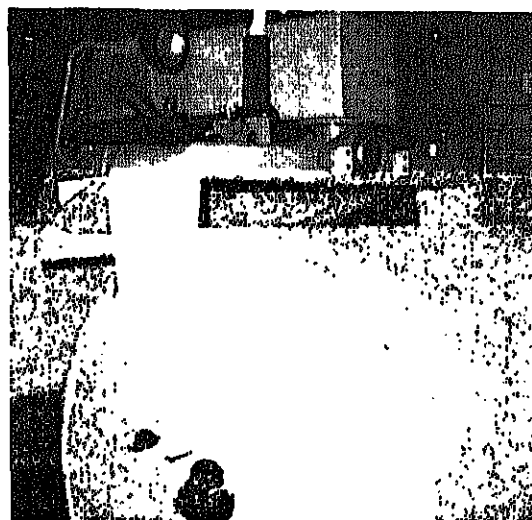

FIGURE 9-99.
c. Lift the gooseneck up until the shaft will clear the steering yoke. Clear the guide roll ahead. Block up the frame (see figure 9-99).